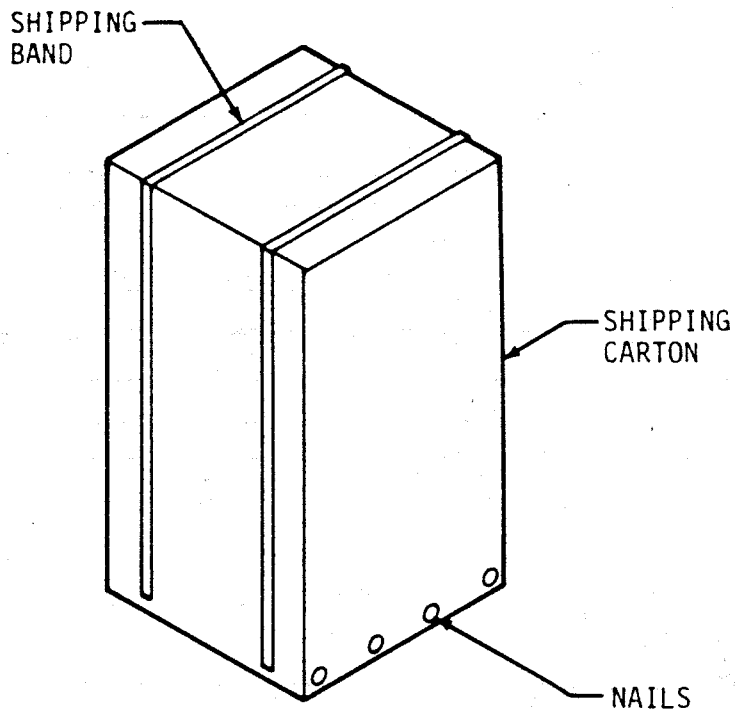

Figure 1. Removing Shipping Carton
Cut and remove the shipping bands from the slicer carton. Then, using a hammer and a small pry bar, remove the nails attaching the carton to the shipping platform. Two people can then lift the carton up and off the slicer. Remove the (4) hex nuts, washers and bolts which secure the slicer's base to the shipping platform. (Figure 1)